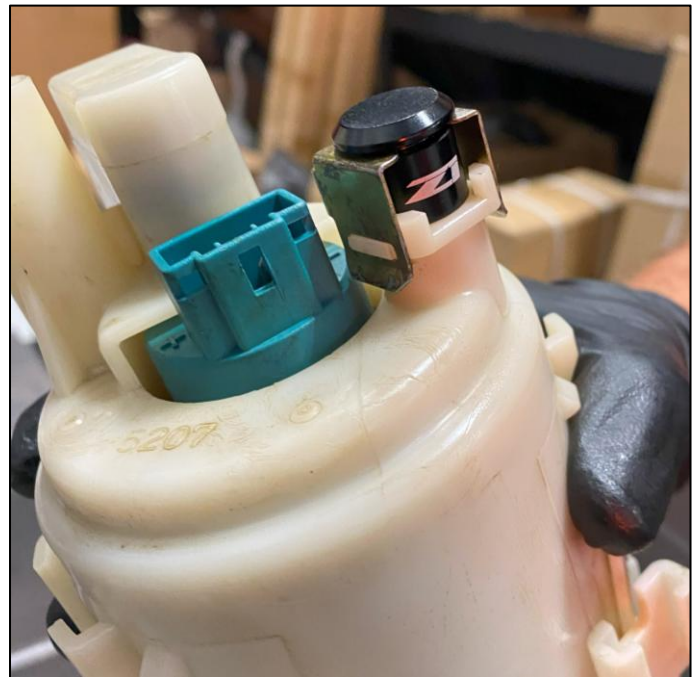

Figure 21
13. Locate the Regulator Delete Plug. Install the Regulator Delete Plug into the port of Fuel Basket and secure it with the Metal Clip removed in *Step 13, FUEL PUMP REMOVAL, Figure 21*.